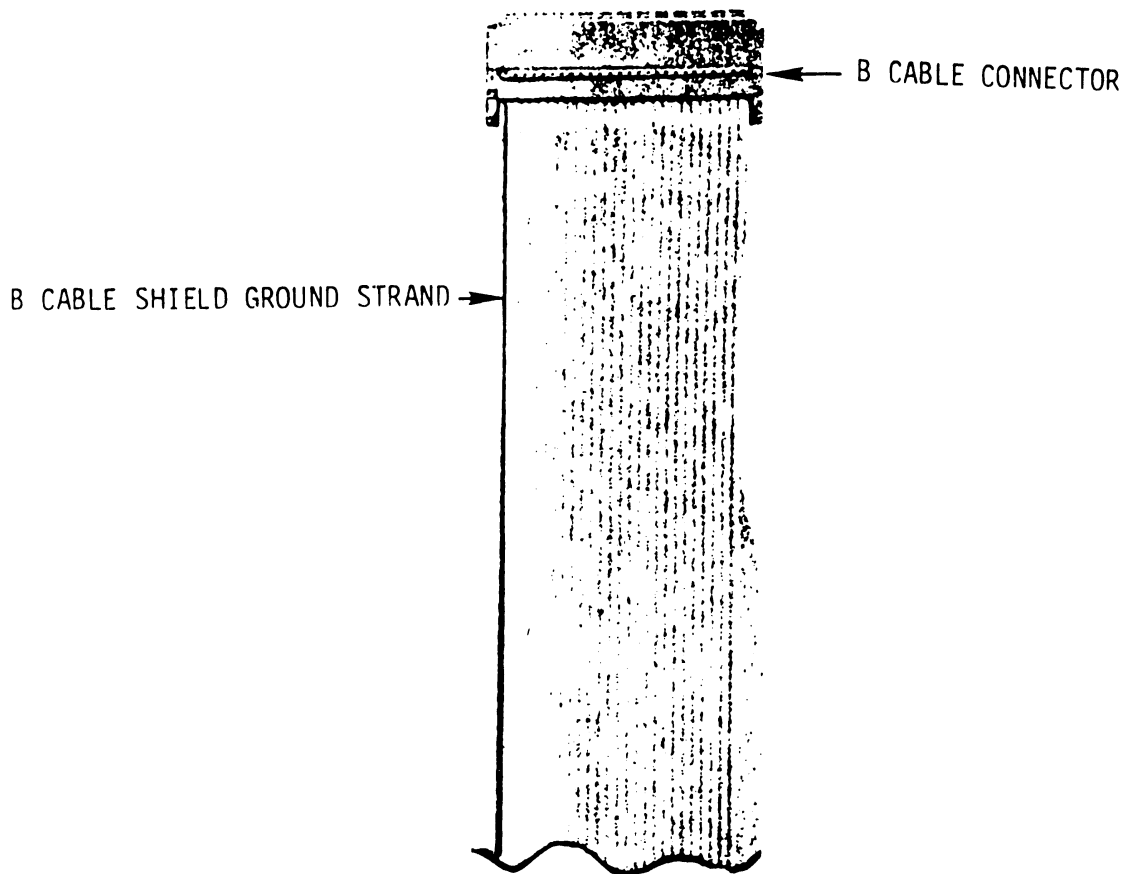

FIGURE 4-30 "B" CABLE
6. Attach the 15 ft. "B" cable (PN 220-3033-1) to receptacle J2 on the I/O panel of the disk drive, making certain sure that the cable shield ground strand (Figure 4-30) is attached to the pin 1 side of J2 on the disk drive (Figure 4-21).